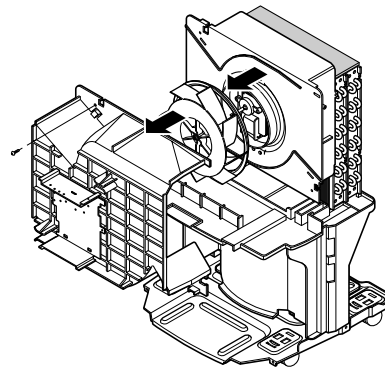

Figure 19
2. Remove a screw that secures housing and orifice, and separate the orifice from housing after unhooking 3 hooks on the housing. (See Figure 19)
3. Turn the nut clockwise and pull out the fan by hands carefully. (See Figure 19)